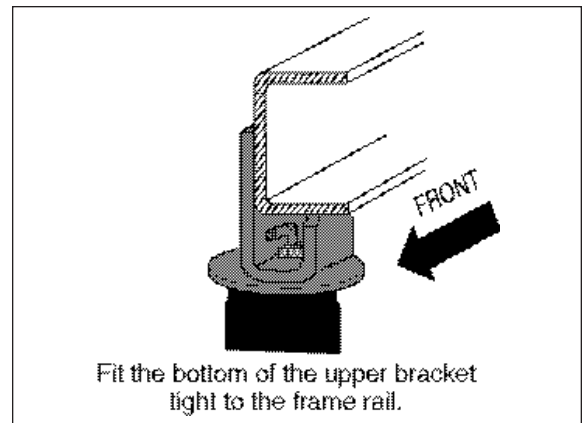

Figure 4
2. Thread the attached air fitting through the bottom of the J-bracket. Position the elbow towards the front or rear of vehicle depending on which direction will allow easier access for the air line (Figures 1 and 2). Slide the provided nylon nut over the air fitting and onto the threaded post. Tighten the nylon nut hand tight to secure the bracket (Figure 4).
5. To install the upper bracket, lower the axle or raise the frame until the upper bracket is in line with the lower and on the same angle as the leaf spring. The lower mounting surface of the upper bracket must be parallel to the mounting surface of the lower bracket and the sleeve should be straight when installed between the brackets. The upper bracket is designed so that it can be tilted for the proper angle (Figure 3). The bottom of the upper bracket must fit tight to the bottom of the frame rail (Figure 4). Using the bracket as a template, center punch and drill three 5/16" holes. The holes must be no larger than 5/16". Attach the upper bracket using the Self-Tapping Frame Bolts and tighten securely (Figure 1). **DO NOT OVERTIGHTEN.**